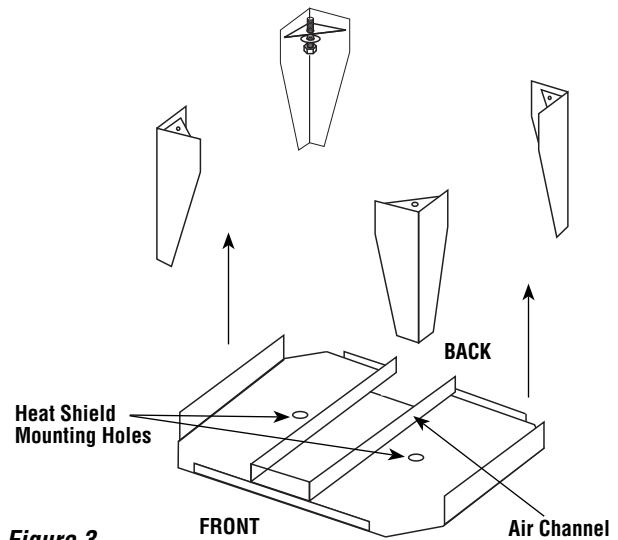

Figure 3
4. Use the two bolts and washers provided with the heatshield kit to mount the heatshield as shown in **Figure 3**.